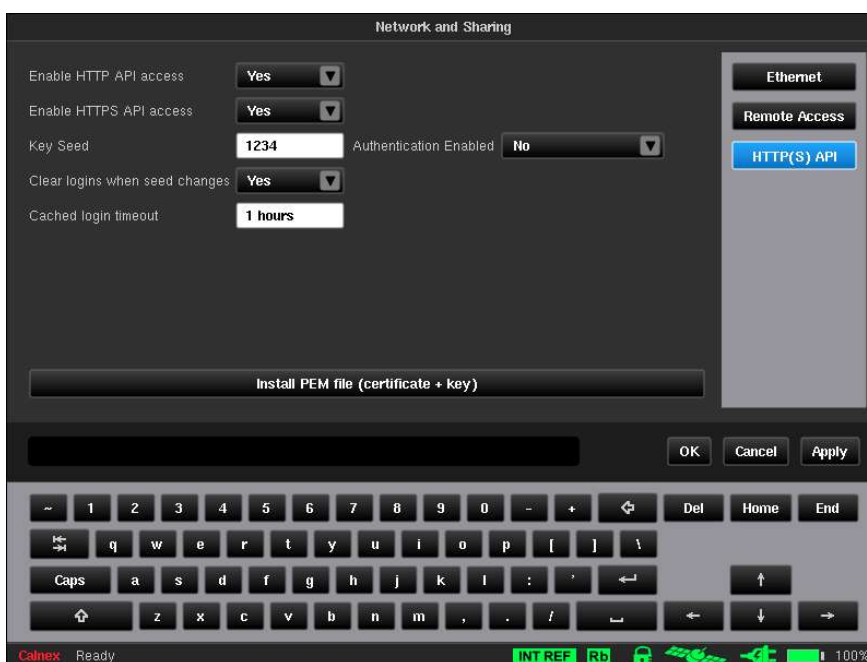

Figure 70 - Network and Sharing - HTTP(S) API Page
When you click on the **HTTP(S) API** button in the **Network and Sharing** screen, the **HTTP(S) API** page (Figure 70) appears.